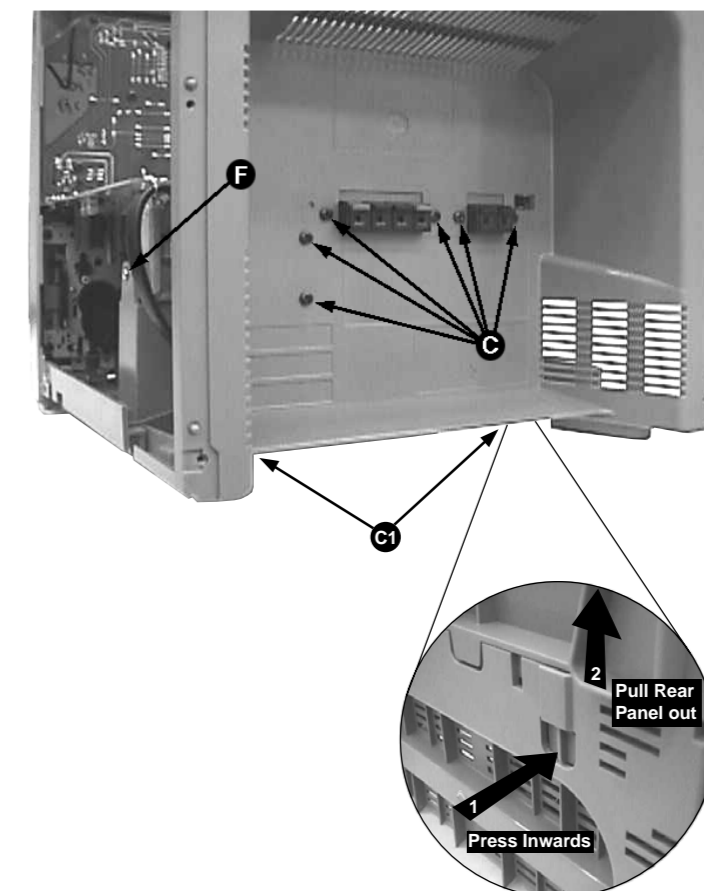

Figure 5
- 2) Remove 1 screw E supporting the bracket, Combi board (pos 33) to the Panel front (pos 8).
- 3) Remove 1 screw F (see figure 5) mounting the Mains transformer body to the Panel Bottom (pos 25).
- 5) Loosen 6 screws G and eject both cassette doors to remove the Tape mechanism (pos 12).